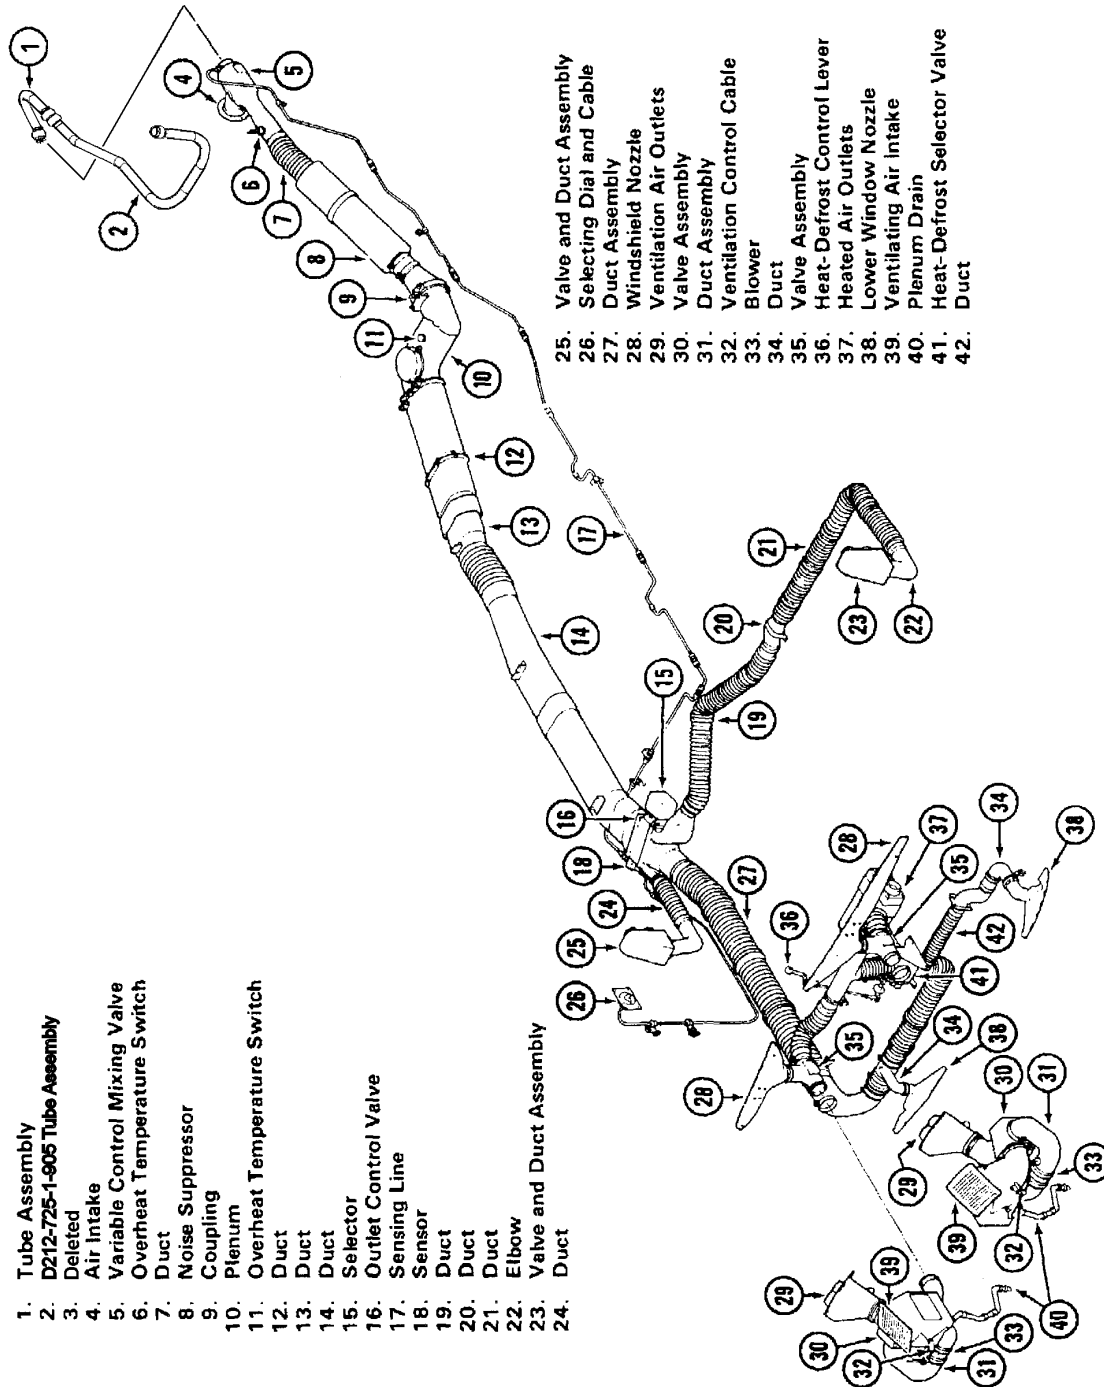
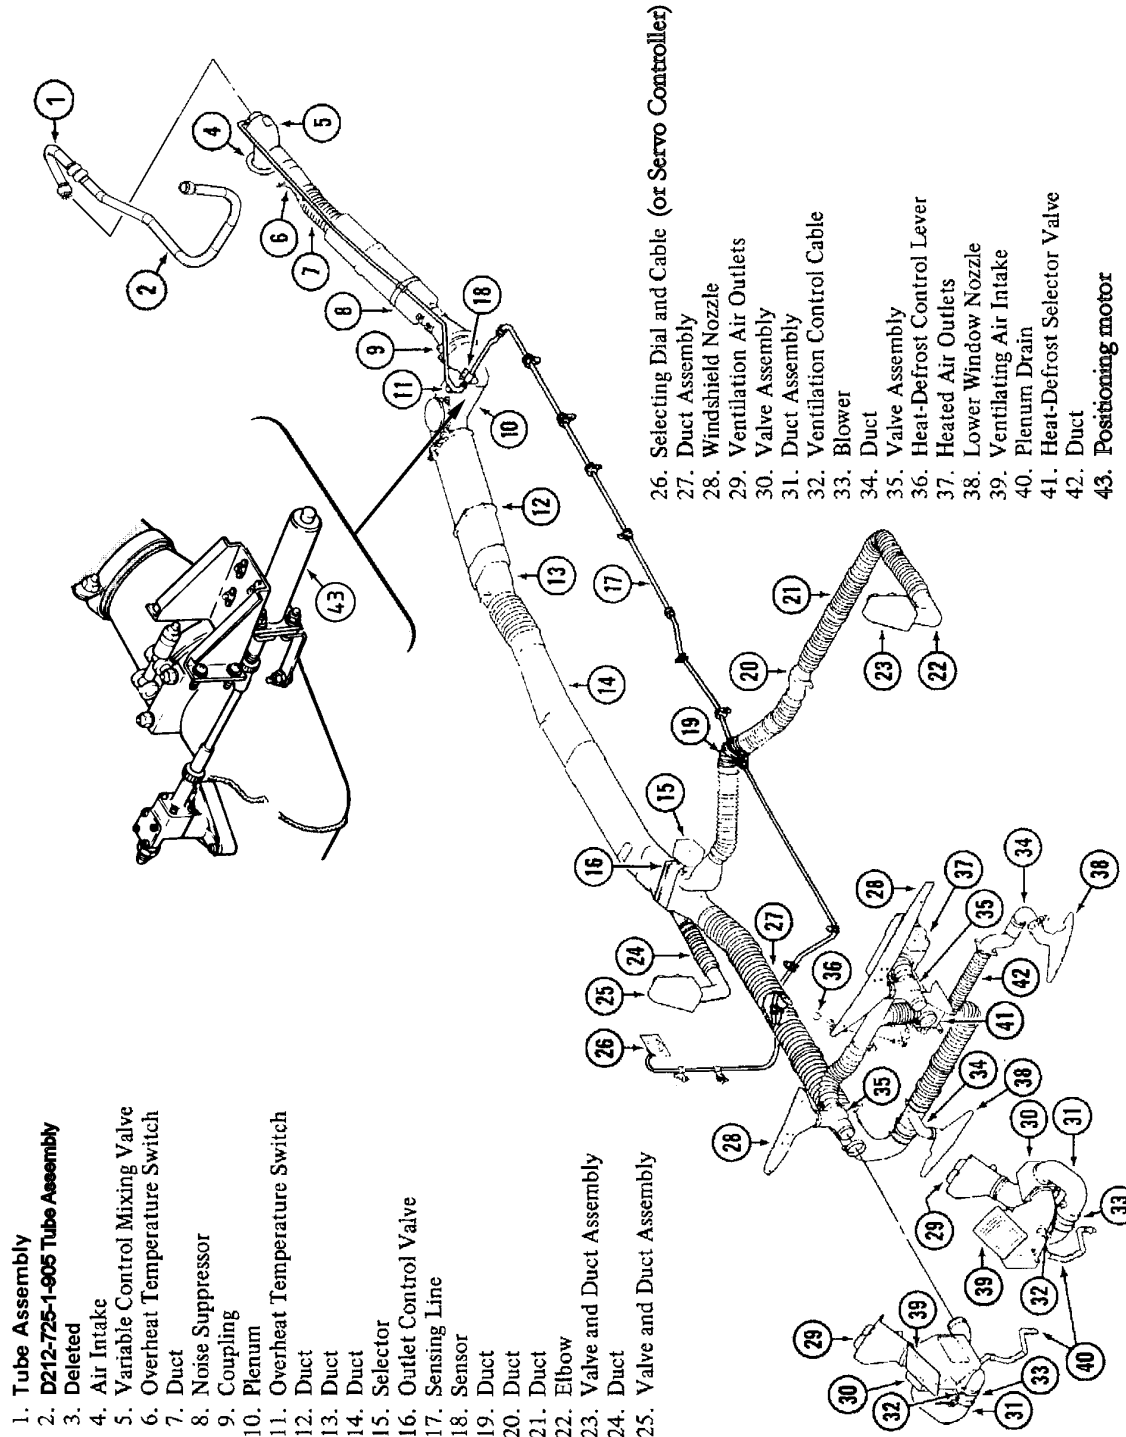
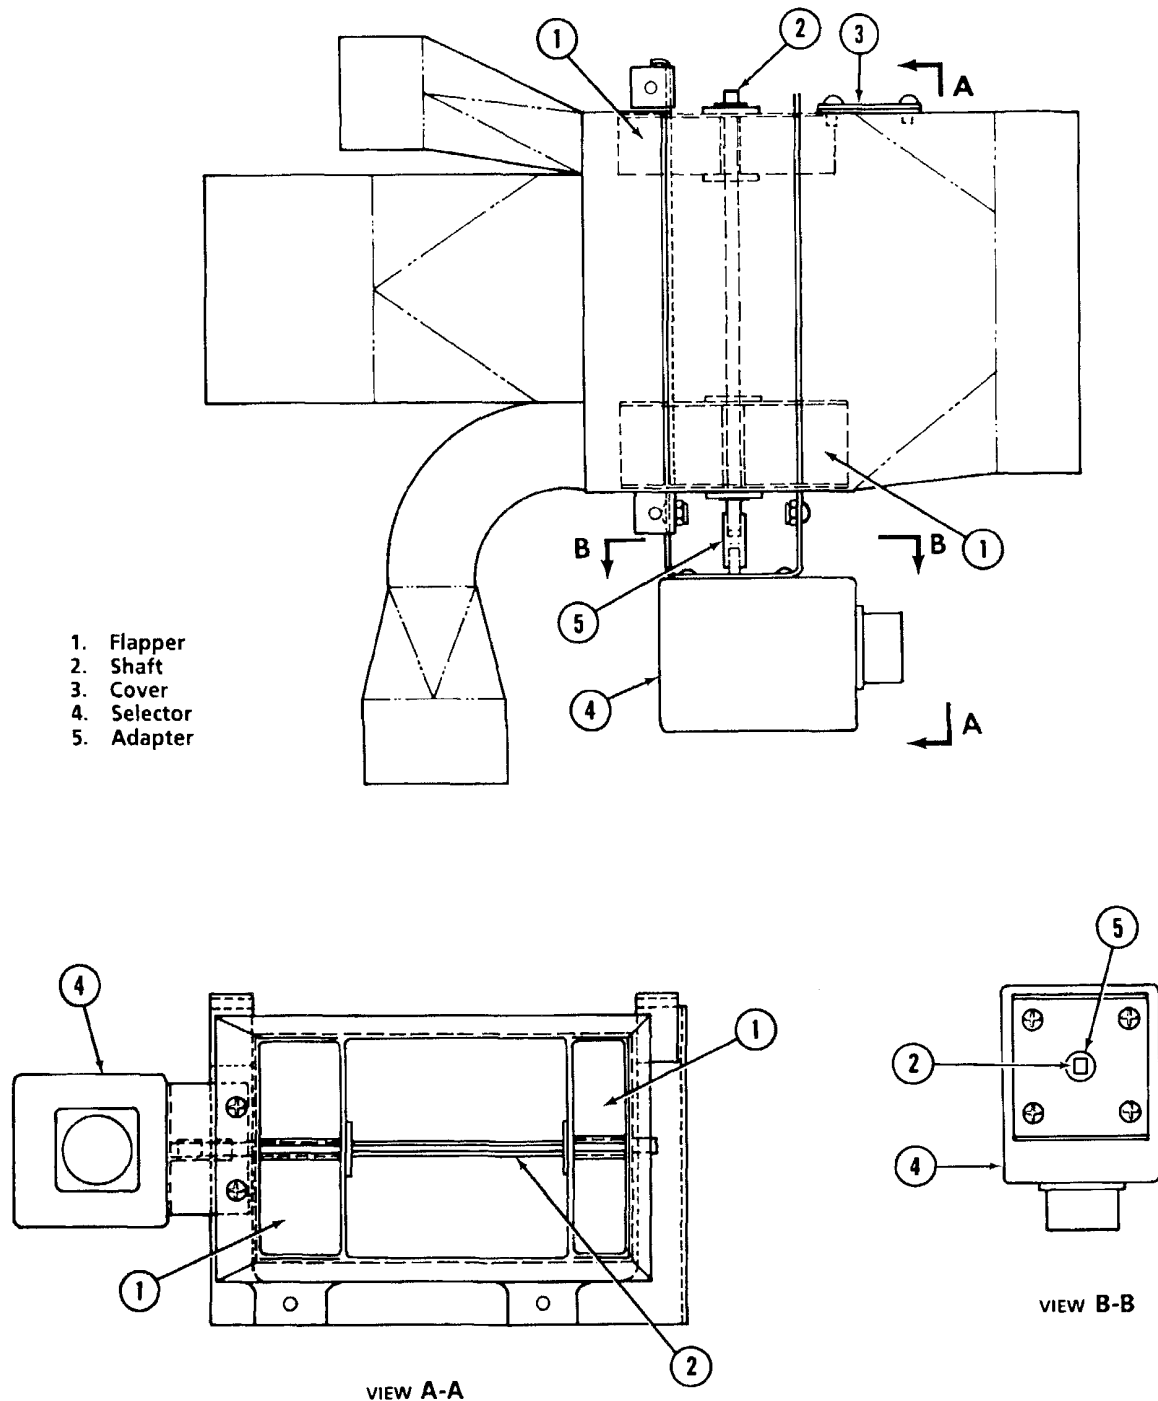

Figure 21-2. Bleed air heating system (S/N 30504 through 30553)
Figure 21-3. Bleed air heating system (S/N 30554 and sub.)
Figure 21-4. Outlet control valve
The mixing valve (5, Figure 21-2 and 21-3) is installed on the right side below the engine deck. This valve controls bleed air and ambient air flow as directed by the remote sensor (18). A bleed air nozzle inside the mixing valve acts as a jet pump through a venturi to draw in ambient air and control the mixed air flow. When heated air is not at the selected temperature, the remote sensor causes the variable control mixing valve to increase or decrease engine bleed air flow and to regulate ambient air flow as required to correct the temperature variation. A temperature limit switch (6) is located on the mixing valve to protect the structure from damage if a distribution system duct ruptures. This switch is set at 220°F (104°C). If this temperature is exceeded, the CABIN HTR circuit breaker will open.
21.5.1.2 Remove two sensing lines, on-off valve wiring and overheat temperature switch (6, Figure 21-2 or Figure 21-3) wiring.
21.5.2.1 Position valve (5, Figure 21-2 or Figure 21-3) in heater system and secure in place with clamp and large B nut. Torque nut 40 to 58 lbs. (54.23 to 78.63 Nm).
The remote sensor (18, Figure 21-2 or 21-3) is installed on top of plenum chamber. The sensor controls the mixing valve through a bleed aft port.
21.6.1.2 Disconnect sensing line (17, Figure 21-2 or Figure 21-3) and selecting dial cable (26) from sensor (18).
21.7.1.1 Remove access plate on underside of fuselage to right of center line and under the outlet control valve (16, Figure 21-2 or Figure 21-3).
*This rigging procedure is to be used when replacing selector (15, Figure 21-2) or outlet control valve.*
21.7.2.2 Connect selector (4, Figure 21-4) to wire harness and allow selector to rotate to open position.
21.7.2.3 Remove sensor (16, Figure 21-2), or cover (3, Figure 21-4), as applicable.
*The position of flapper (1, Figure 21-4) may be checked by looking through opening under cover (3) with a inspection mirror.*
21.7.2.4 Rotate flapper (1) to horizontal (open) position.
21.8.1.2 Remove selector (15, Figure 21-2 or Figure 21-3), sensor (18), and connecting ducts from valve.
21.9.3.3 At connecting ends of ducts (13 and 14, Figure 21-2) apply adhesive (C-300) to soft ends and apply three complete wraps of glass cloth (C-403), two inches wide. Do not stretch last wrap.